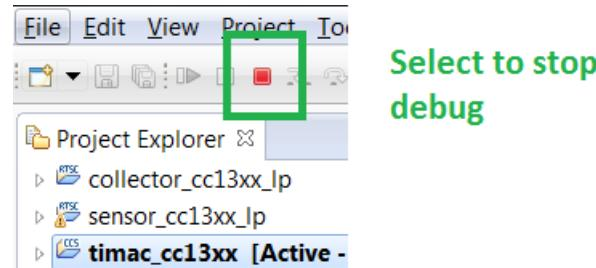

Figure 7. Terminate Debug
4. When the download is complete, the following screen appears. Select the terminate option to terminate the debug session (see Figure 7) and move on to the next step.